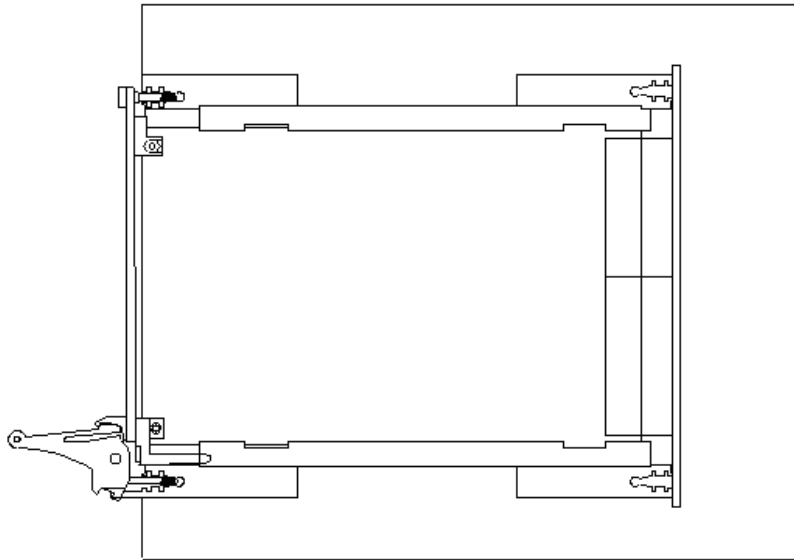

Figure 3-2: Ejector handle position after module insertion
7. After you feel resistance, push in the ejector handles as shown in Figure 3-2 to secure the module into the frame.